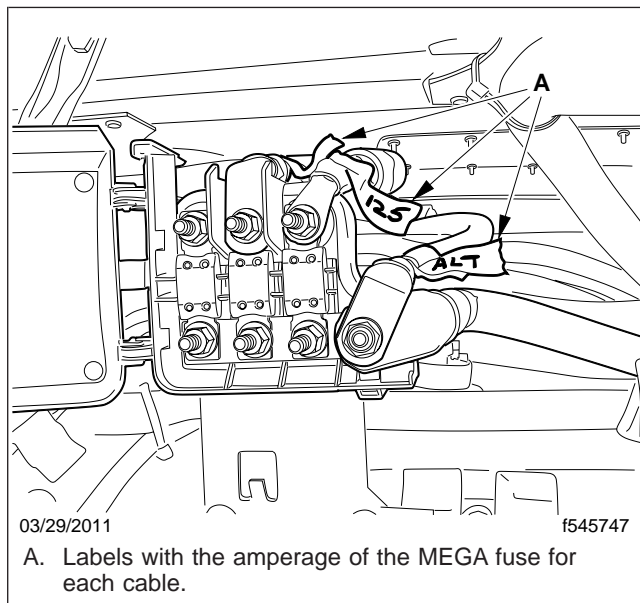

Fig. 3, Labeled Cables on the MFJB
3. Attach labels on each MEGA fuse cable noting the amperage and circuit function. See Fig. 3.